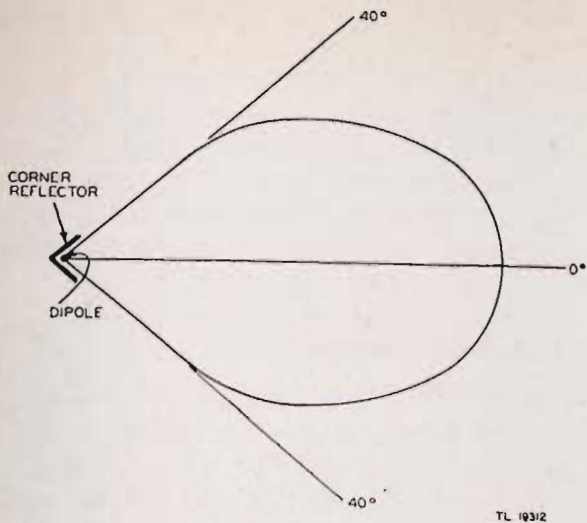

Figure 105. Antenna directivity pattern.
b. Antenna Assemblies. (1) The antenna assemblies used with this system consist of a half-wave dipole mounted in front of a corner reflector. The corner reflector is somewhat like a funnel into which the signal is poured. By use of the reflector the antenna becomes directional and a gain of approximately 6 db is obtained in the desired direction (fig. 105). Best response occurs when the receiving antenna is directly facing the distant transmitting antenna. The antenna should be aimed so as to obtain maximum signal at the receiver; this occurs when the antenna is directed properly within plus or minus 15°. Either horizontal